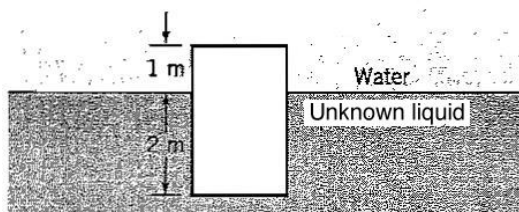

Figure P2.78
2.78 The circular cylinder shown in Figure P2.78 has a specific gravity of 0.9. (a) If the system is in static equilibrium, find the specific gravity of the unknown liquid. (b) Do you think the system is stable?